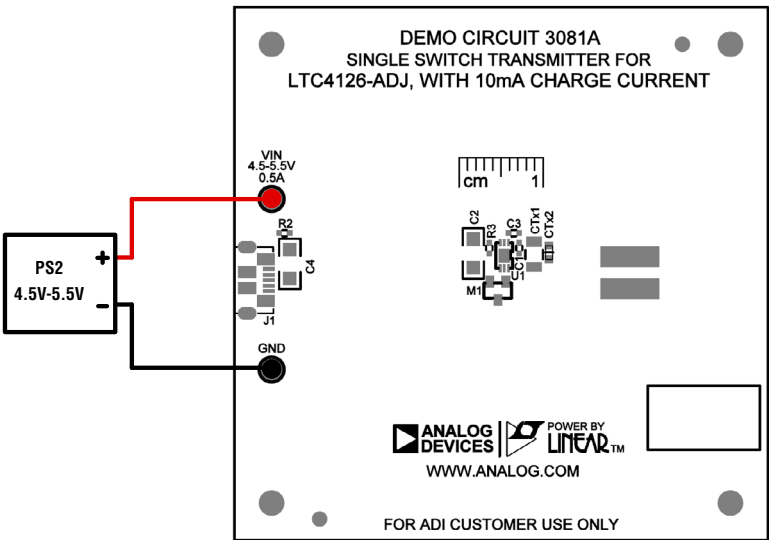

Figure 10. Test Setup for DC3081 Transmitter
2. Connect a voltage source PS2 between the VIN and GND turrets of the DC3081A, as shown in Figure 10.